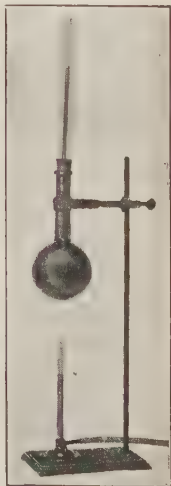

FIGURE 144.—BULB AND SCALE.
**89. Rate of Expansion.** — While this experiment shows that liquids expand, it only *compares* their rates of expansion. The rate of expansion of a liquid can be *measured* by putting the liquid in a bulb of known capacity. This bulb is attached to a tube of small diameter, which must also be known (Figure 144). To calculate the rate of expansion of the liquid, the rise of the liquid for a known increase in temperature must be observed; and a correction made for the expansion of the bulb. The result of the calculation would show